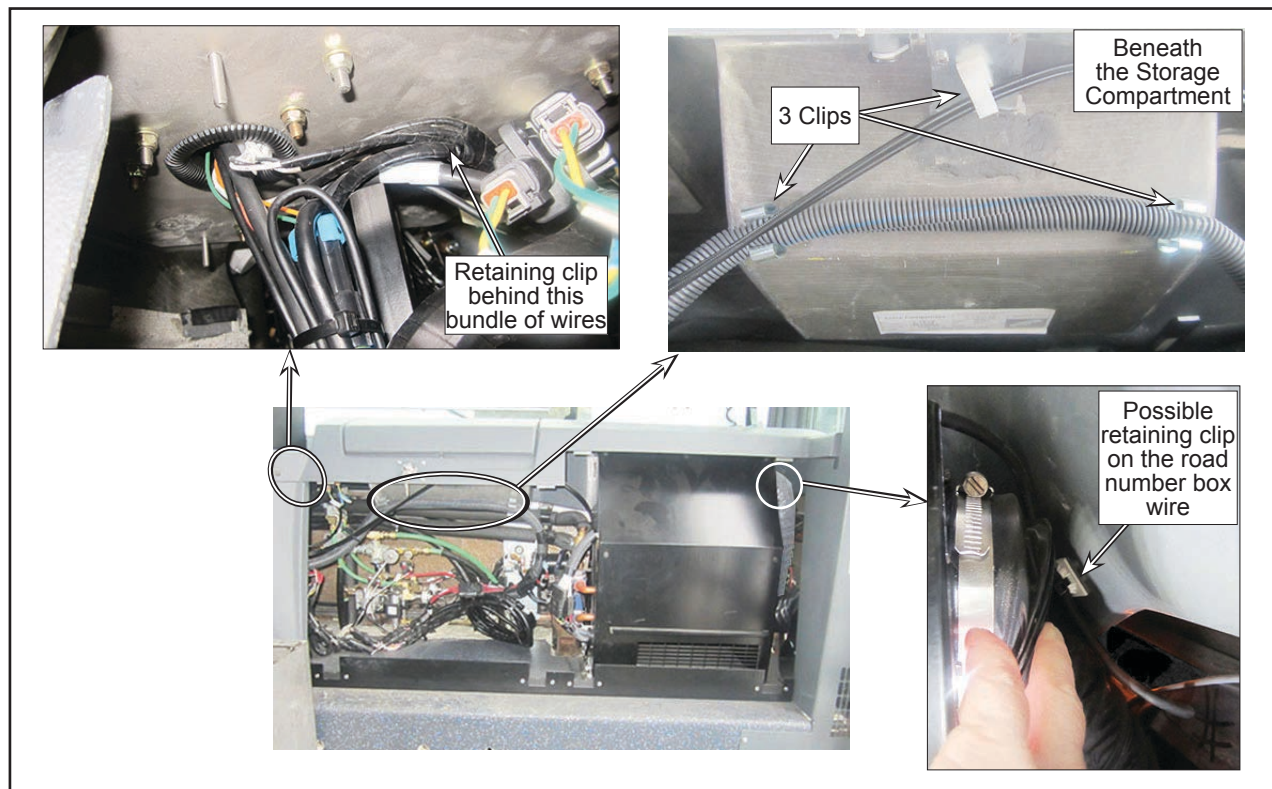

Figure 5 - Approximate Locations of Tie-wraps
- 1.5. Release the wires / harnesses that are attached to the right side of the dash (cut the tie-wraps, remove the harness from the clips,...). Where necessary, unplug any connectors. See Figure 5.
- 1.6. Slacken the road number box harness. See Figure 5.